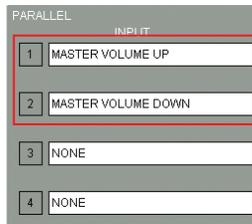

Fig. 10 Setting of the PARALLEL REMOTE
2. Select MASTER VOLUME UP on the PARALLEL/PROJECTOR CONTROL screen. This selection appears on a drop-down list on INPUT 1. Then select MASTER VOLUME DOWN on the PARALLEL/PROJECTOR CONTROL screen. This selection appears on a drop-down list on INPUT 2 (Fig. 10).